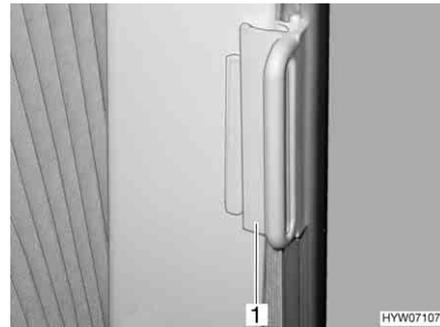

Fig. 37 Lock for Roman shade
- Push the handle (Fig. 37,1) onto the cap. The Roman shade is secured.